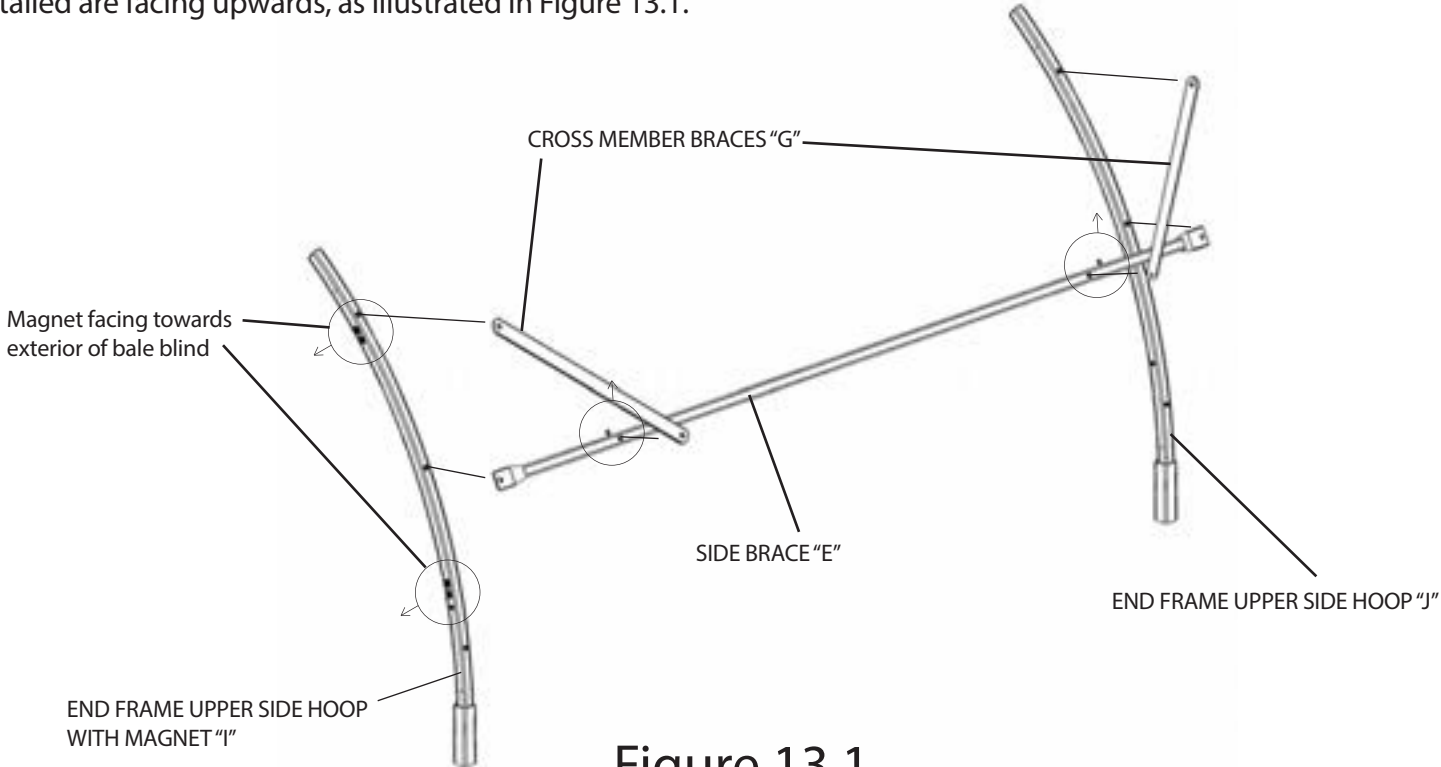

Figure 13.1
STEP 5: Locate the (5) parts that will be assembled to create the second section of the bale blind frame. These parts are (1) END FRAME UPPER SIDE HOOP WITH MAGNET "I", (1) END FRAME UPPER SIDE HOOP "J", (1) SIDE BRACE "E", and (2) CROSS MEMBER BRACES "G". Using the hardware connection in (2) places, align and fasten the hole ends in the SIDE BRACE "E" with the middle hole in the END FRAME UPPER SIDE HOOP WITH MAGNET "I" and the middle hole in the END FRAME UPPER SIDE HOOP "J", fastening with (2) Bolts and (2) Nuts. Next align the hole ends of the (2) CROSS MEMBER BRACES "G" with the corresponding holes in the SIDE BRACE "E" as well as the upper most holes in the END FRAME UPPER SIDE HOOP WITH MAGNET "I" and the END FRAME UPPER SIDE HOOP "J", and fastening with (4) Bolts and (4) Nuts, as illustrated in Figure 13.1.
NOTE: On the END FRAME UPPER SIDE HOOP WITH MAGNET "I", make sure the magnets are facing towards what would be the exterior of the bale blind, as illustrated in Figure 13.1. On the SIDE BRACE "E", make sure the (2) Set Screws already installed are facing upwards, as illustrated in Figure 13.1.